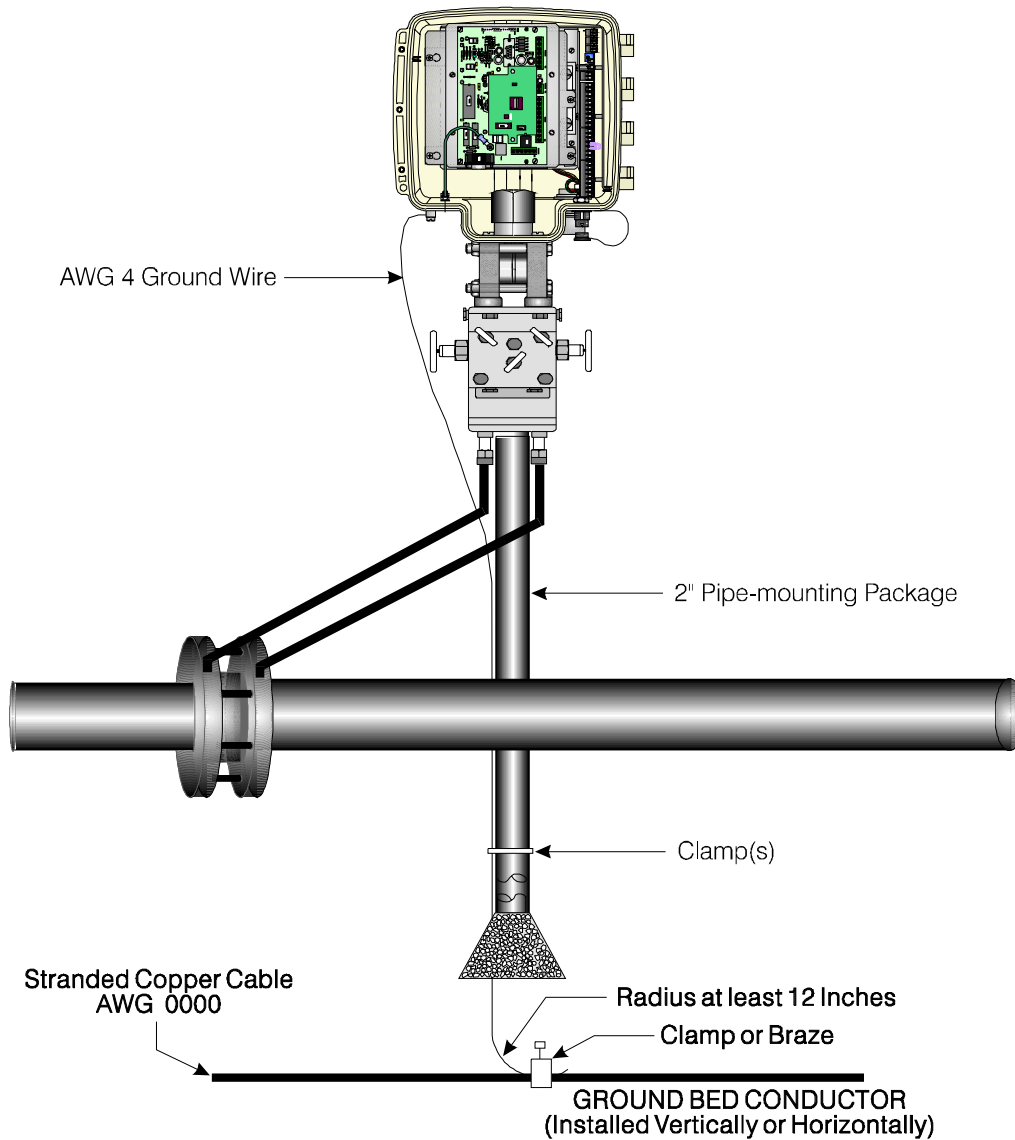

Figure 6 - Earth Grounding of TeleFlow Modem and Case
11. Connect a ground wire between the Ground Lug (on the bottom of the case) and a known good Earth Ground (see Figure 6). Observe these recommendations: